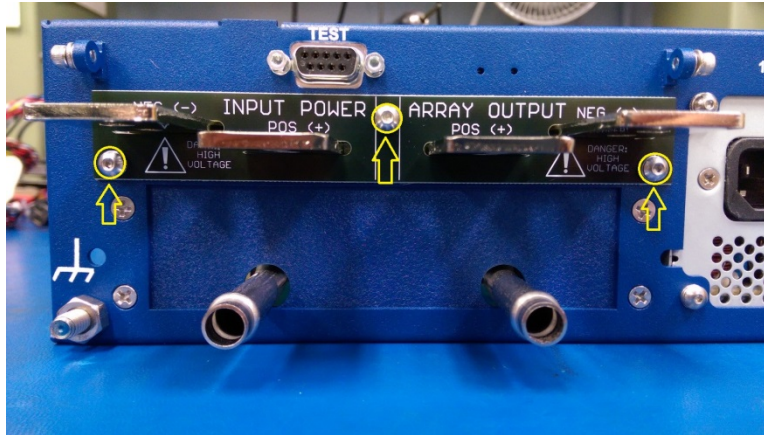

Figure 2: Remove 3 screws.
- Using a 5/64 socket head screwdriver, remove the 3 socket head cap screws holding the black input and output power label onto the rear of the eDrive. Slide the plate off of the back of the eDrive. See Figure 2 below.
18. Reattach the black input and output power label onto the back of the eDrive. See Figure 2.